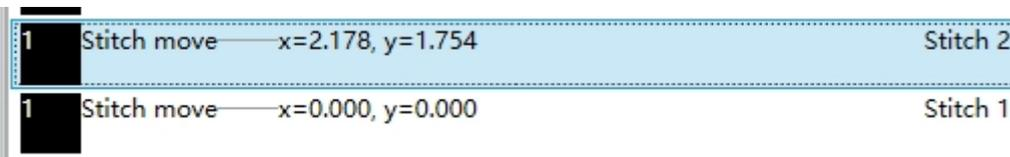

Fig. 5.7.3b Command Segment Selected
Operation: ① Select the command segment to be moved, and the selected command segment will be displayed with a blue background. As shown in Fig. 5.7.3b below.
Operation: ① Select the command segment to be deleted, and the selected command segment will be displayed with a blue background. As shown in Fig. 5.7.3b.
Operation: ① Select the command segment, and the selected command segment will be displayed with a blue background. As shown in Fig. 5.7.3b.